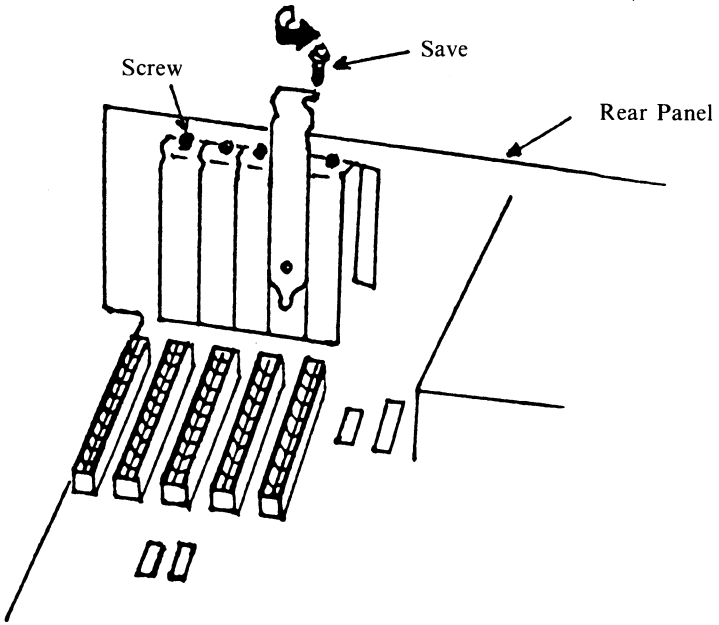

Figure 3.4 Preparing an Expansion Slot
- 6) Locate an unused expansion board slot in your system unit and remove the screw and the cover as shown in Figure 3.4.